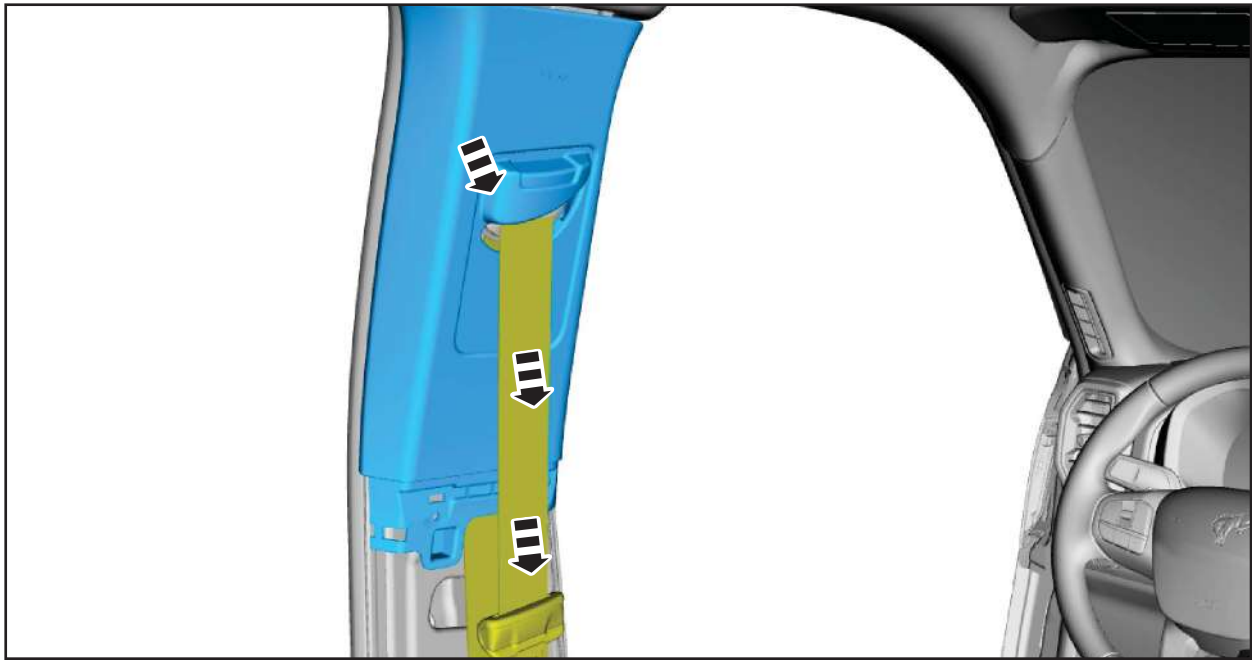

FIGURE 9
9. Position the upper B-pillar down the seatbelt and out of the way. See Figure 9.